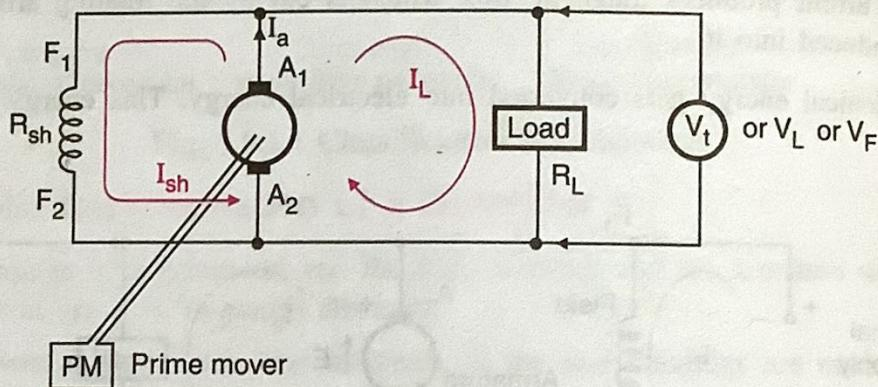

Fig. 7.8.4 : Shunt generator
- The term shunt indicates the parallel connection. The connections between the armature and field windings are as shown in Fig. 7.8.4.